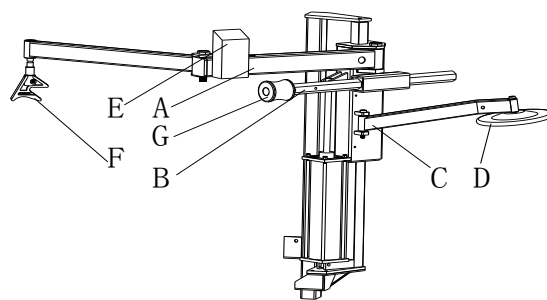

Fig 9
- 4) Install the Rotating arm (A)、Hexagonal horizontal arm (B) and Tire lifting roller support (C) separately on the tire changer;(Fig 9)
- 5) Install the tire lifting roller (D)、 the switch (E)、 tire pressing head (F) and tire pressing roller(G) separately on the tire changer;(Fig 9)
Fig 9 shows functional parts to the 006B device: